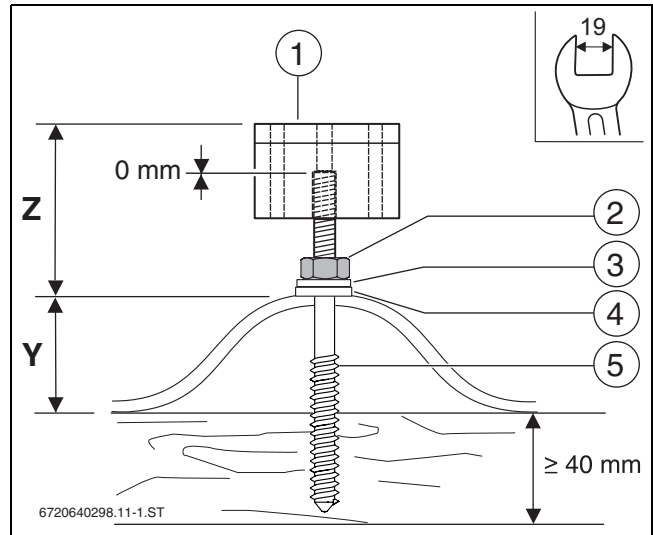

Fig. 29 Fitted double ended screw with retaining block
- ▶ Turn the pre-assembled double ended screw with an SW19 spanner until dimension Z (→ Tab. 13) is reached (→ Fig. 29).
- ▶ Tighten nut (→ Fig. 29 [2]) until the sealing washer makes full contact with the corrugated sheet.